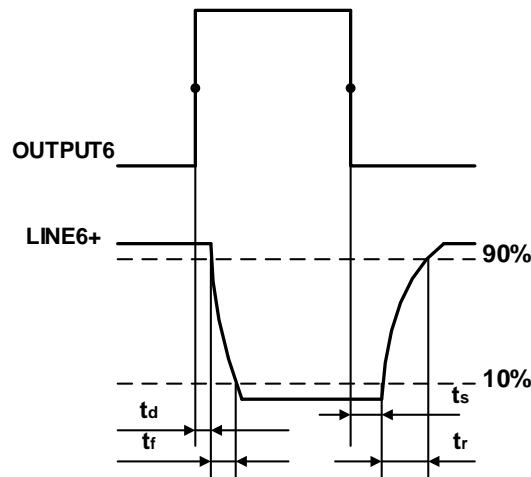

Figure 6-16 Parameter of opto-isolated output circuit
- Rising time delay = t_d+t_f : $<4\mu s$ ($0^\circ C \sim 45^\circ C$) (parameter description is shown in Figure 6-16)
- Falling time delay = t_s+t_r : $<4\mu s$ ($0^\circ C \sim 45^\circ C$) (parameter description is shown in Figure 6-16)